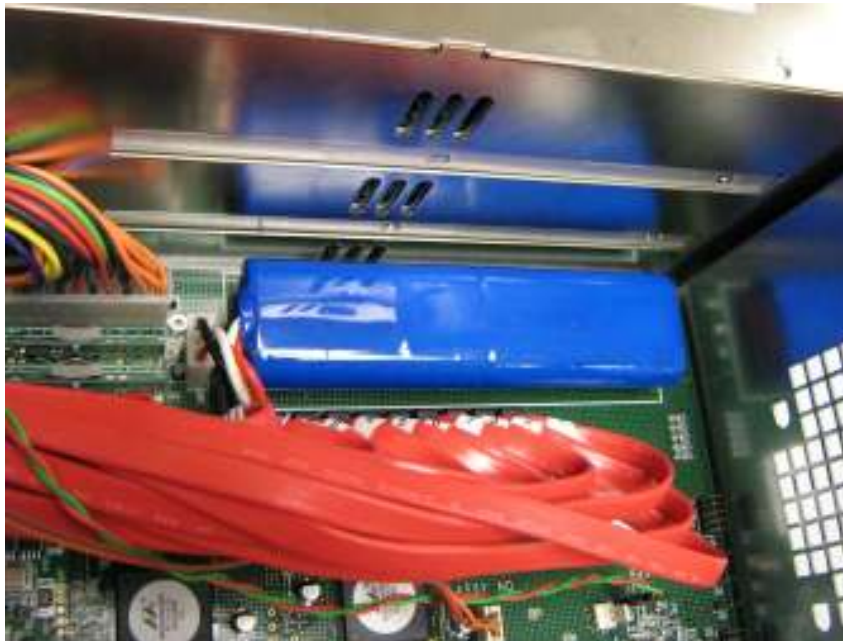

Figure D-5 The Installed Battery
5. The installed battery is shown in Figure D-5.